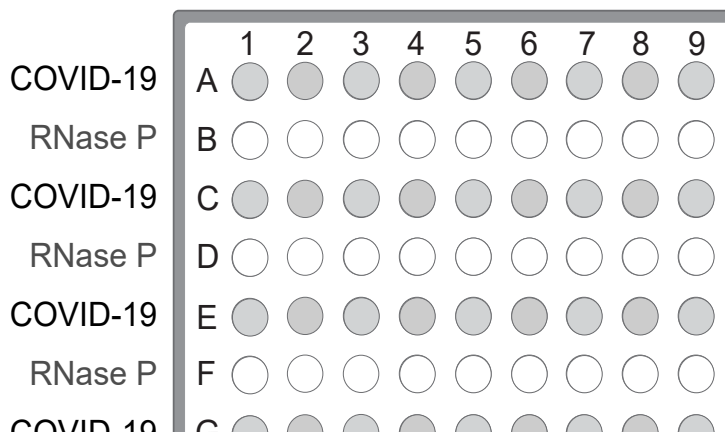

Figure 3 Assays in alternating plate rows
- a. Starting with row A, pipet 10.0 μ L per well of the COVID-19 Reaction Mix into every other row of a MicroAmp™ Optical 384-Well Reaction Plate with Barcode. See Figure 3 on page 53. A MicroAmp™ Optical 384-Well Reaction Plate can be used (see “Required materials not supplied” on page 12).